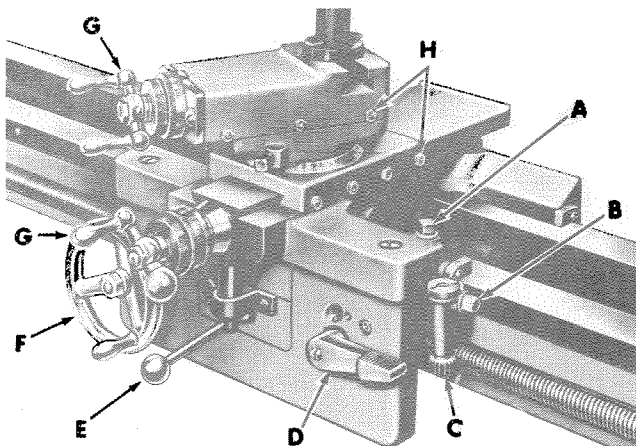

FIGURE 10
HANDWHEEL (F, Fig. 10) manually moves carriage along the lathe bed.
1. Loosen Gib Screw Lock Nuts (H, Fig. 10).